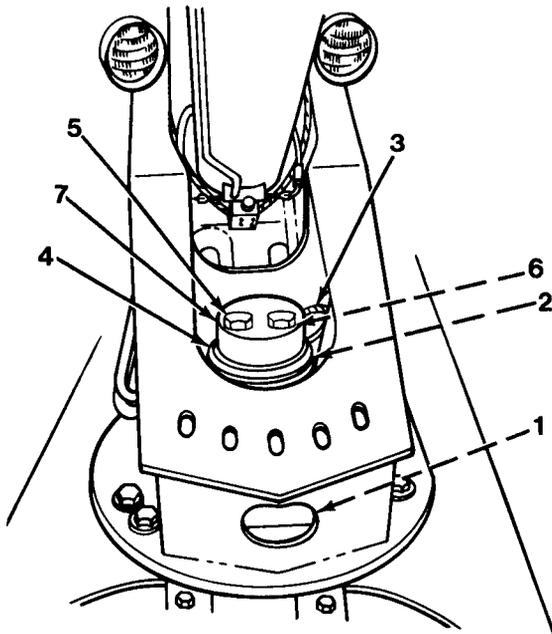

Figure 10-1
17. Install cover (7). Make sure upper harness grommet fits in slot on side of cover (7). Install two washers (6) and nuts (5, Figure 10-1).